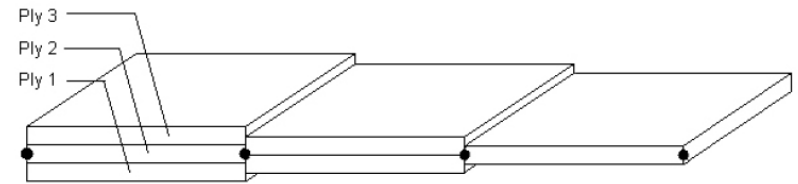

Figure 2. Schematic of physical representation of layered shell elements with nodes positioned at the mid-thickness.
- See Figure 2 in the WP_NuMAD_Report for illustration of shear webs